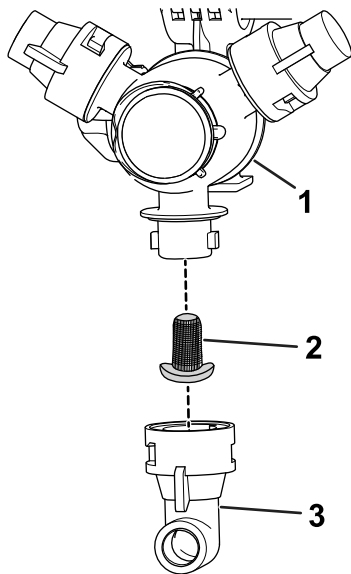

Figure 81
2. Remove the nozzle from the spray turret (Figure 81).
3. Remove the nozzle filter (Figure 81).
5. Install the nozzle filter (Figure 81).
6. Install the nozzle onto the spray turret (Figure 81).